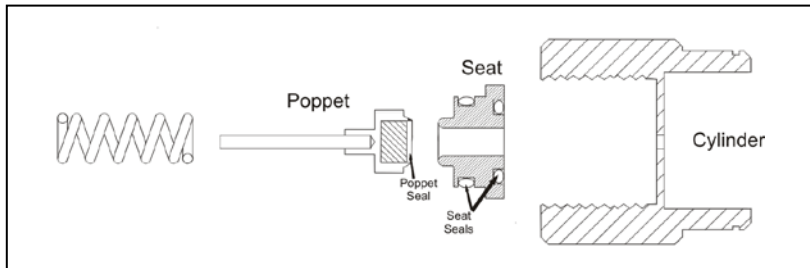

Figure 5
- a) Replace the seals on the seat (see Figure 5).